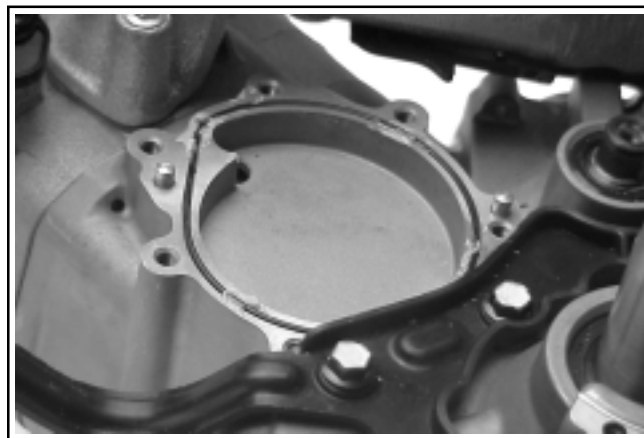

Figure 11-59. Installing O-Ring in Crankcase for Water Pump.
- Place a new O-Ring in the groove of the crankcase, and apply a small amount of grease in several locations to hold it in place. See Figure 11-59. **DO NOT use RTV sealant in place of the O-Ring, or attempt to reinstall a used O-Ring.**